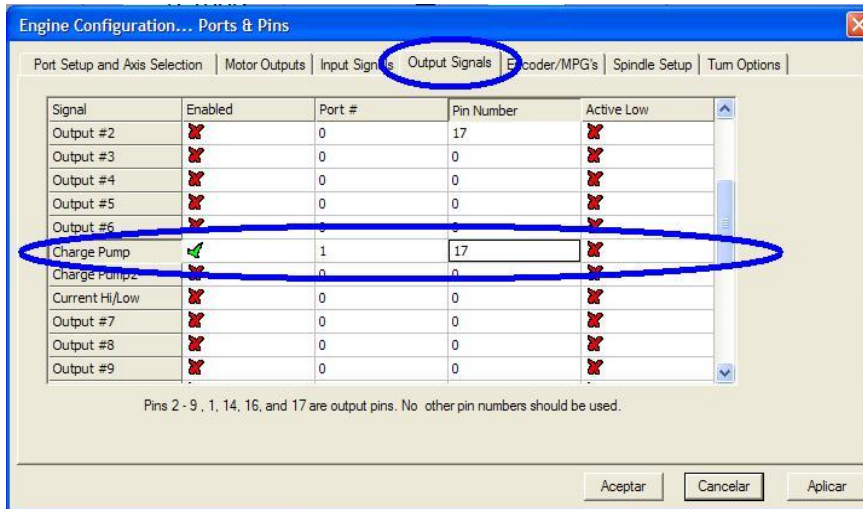

Fig. 6. Charge Pump configuration
Step 2. Configuring the *Charge Pump* in *Mach X*: To do this use the dialog *Config / Ports and pins / Output Signals*. Enable the *Charge Pump* output and configures it as is shown in the Fig. 6 Next, press the *apply* button.